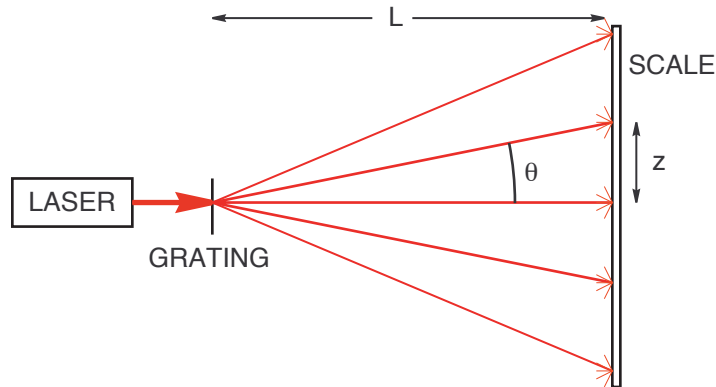

Figure 4
- A. Set up Figure 4 using the laser, diffraction grating, and meter stick. The distance L should be about 50 cm and the diffraction grating used here contains 600 lines per mm. Take special care to ensure the incident laser beam is perpendicular to the meter stick and the grating. The accuracy of your measurements here will influence later measurements in the lab. Make adjustments until you are able to view 1st and 2nd order spots on the meter stick.
- B. Measure and record the location of the first order spots on either side of the central spot (z and z') in a table similar to the one below. Compute the average z and use it to find θ (note: $\tan \theta = \frac{z}{L}$ as shown in Figure 4). Use θ to find λ .